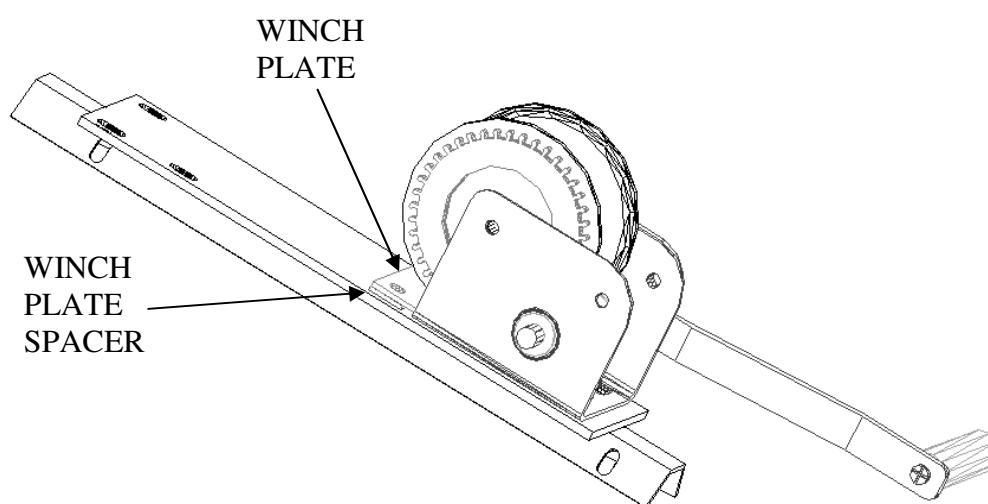

Figure 2 – Winch Mounted on Winch Plate Bracket
3. The winch plate (item 15) is attached to the middle pair of holes in the winch mounting bracket, by sandwiching the winch plate spacer (item 16) beneath and securing with  $3/8"$  x  $1\ 1/4"$  hex bolts and hardware (items 23, 24, 25). The portion of the winch plate (item 15) without holes should be downward, with the space beneath permitting the winch to slide into it securely. The winch is attached with its handle to the right with  $3/8"$  x  $1\ 1/4"$  hex bolts and hardware (items 23, 24, 25) through the bottom two holes. Read the instructions attached with the winch in order to complete its installation. See Figure 2.